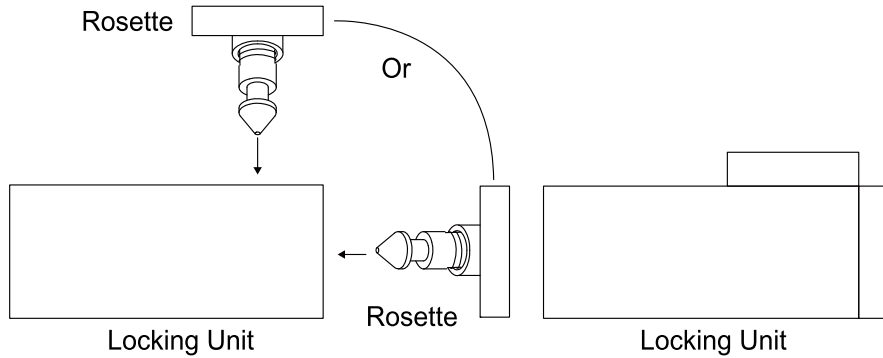

Figure 1 Mounting Position
2. Install the rosette with the two 1/8" x 1/2" (3.5 x 12mm) pan head screws. Make sure the locking unit and rosette must be aligned as shown in Figure 1. When closing the cabinet or drawer door, the locking pin of the rosette must be able to engage the locking unit.